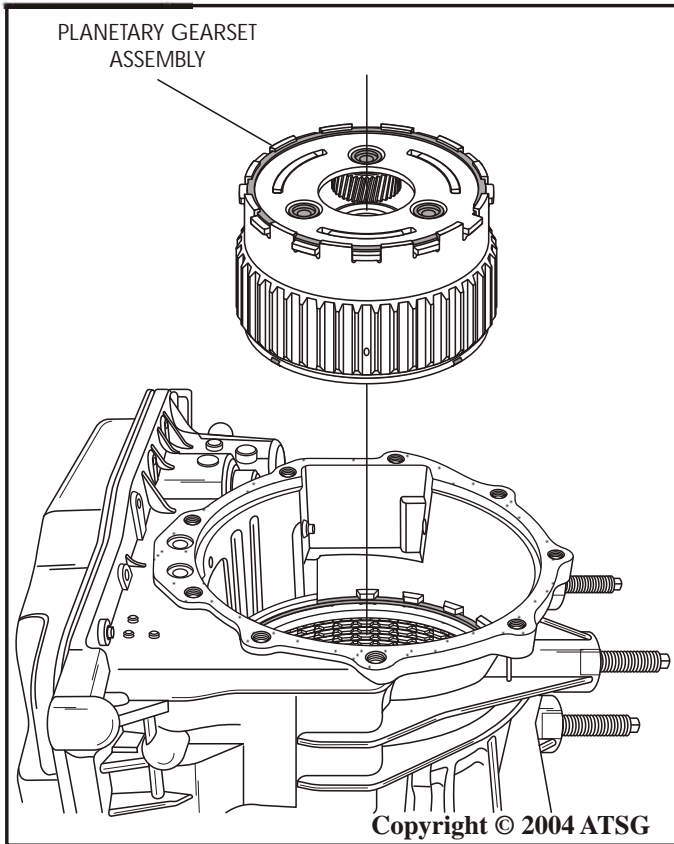

Figure 169
38. Install the pre-assembled planetary gearset, as shown in Figure 169, by rotating in a counter-clockwise direction and ensure that it is fully seated over low sprag inner race.